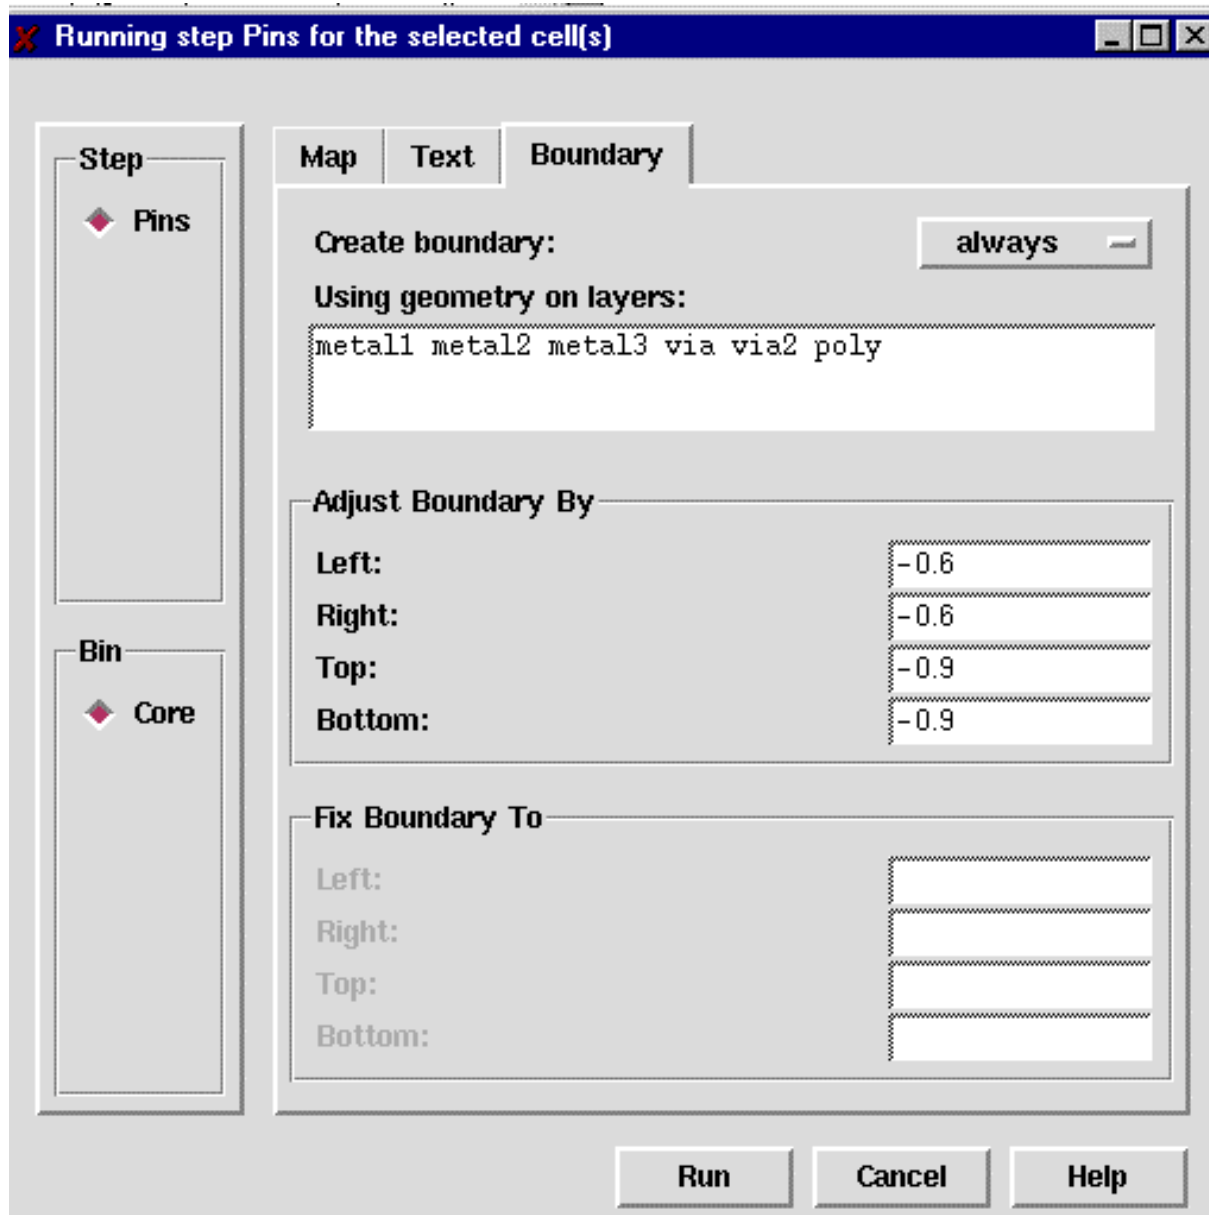

Figure 9: Pins Form (Boundary Tab)
- Click on the **Boundary** tab. The **Pins** form will change to that of figure 9 (next slide).
- Fill in the values for “Adjust Boundary By” according to that shown in figure 9.